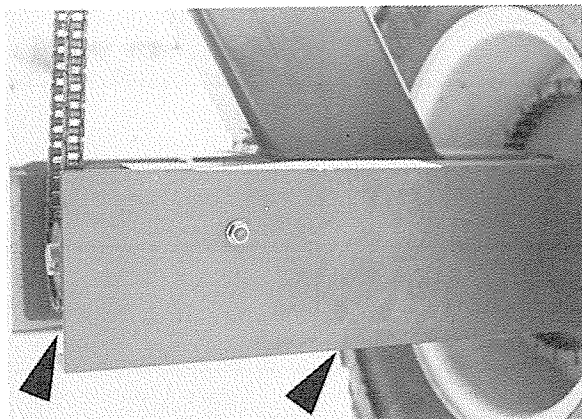

Figure 36
- (c) Main Drive chain bearings 2 places. (See Fig. 36).